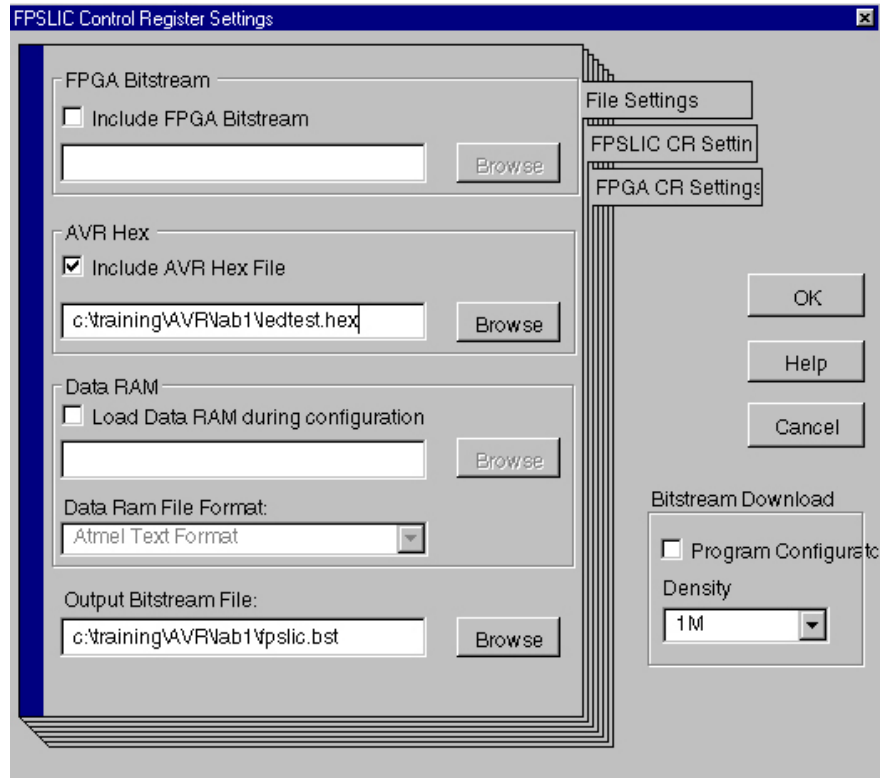

Figure 3: Bitstream File Settings Window
2. A window similar to **Figure 3** will open